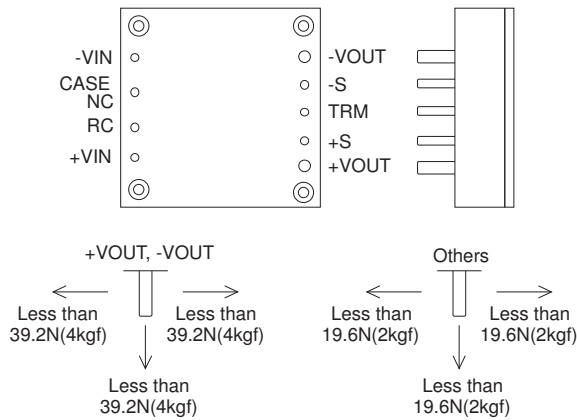

Fig. 6.1 Stress onto Pins
■Applying excessive stress to the input or output pins of the power module may damage internal connections. Avoid applying stress in excess of that shown in Fig. 6.1.